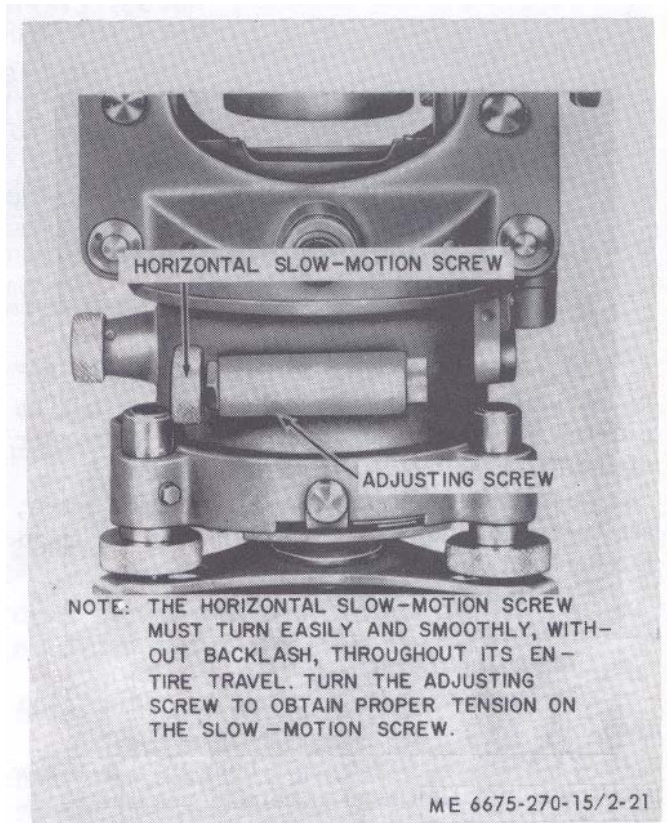
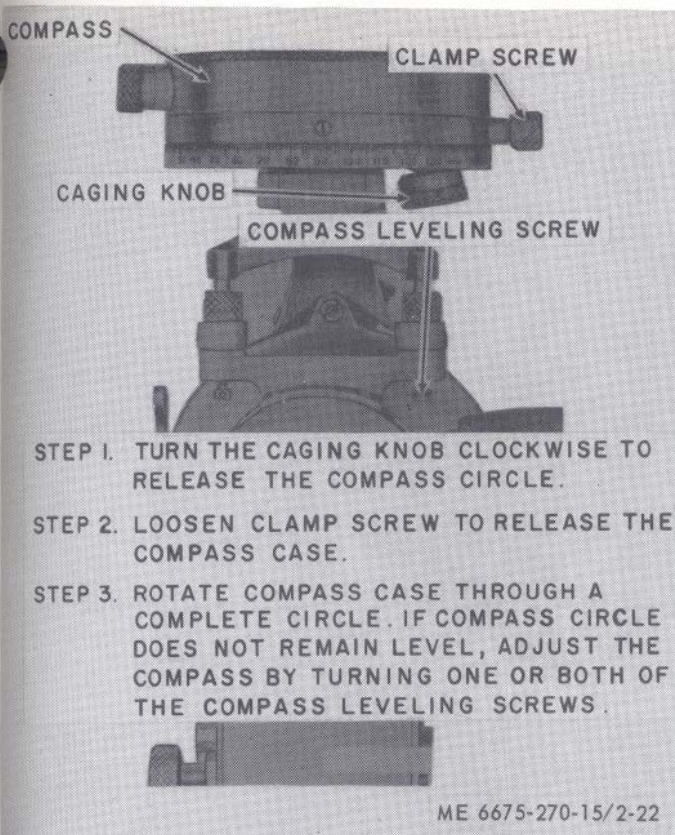

Figure 2-21. Horizontal slow-motion screw adjustment.
Figure 2-22. Compass adjustment.
f. *Horizontal Slow-Motion Screw.* Refer to figure 2-21 and adjust the horizontal slow-motion screw.
(1) Level the theodolite (para 2-10).
(2) Install the compass (para 2-2b.).
(3) Refer to figure 2-22 and adjust the compass.